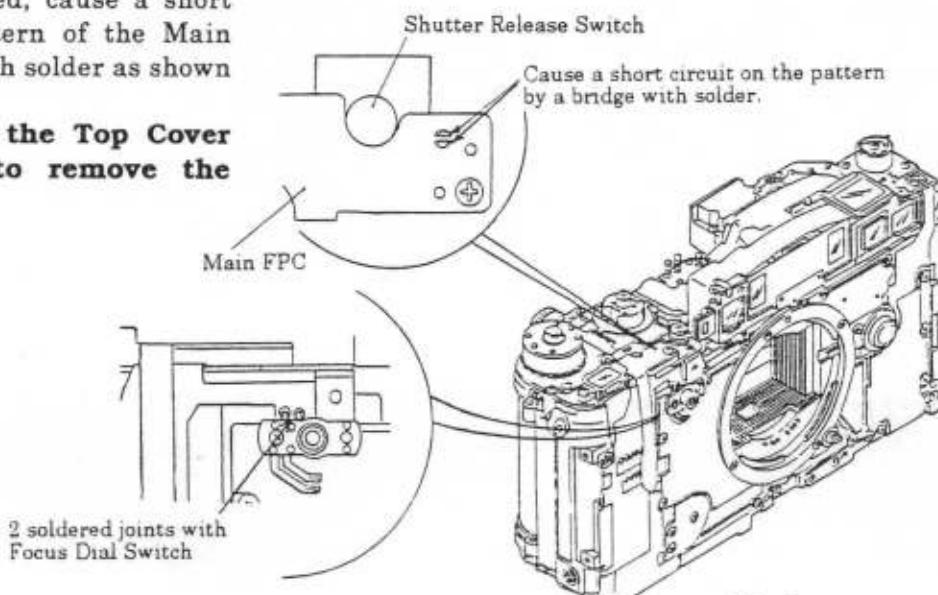

Fig. 2
- 2) Unsolder the 2 soldered joints between the Main FPC and the Focus Dial Switch. (See Fig. 2)
- a) To operate the camera with the Top Cover Ass'y removed, cause a short circuit on the pattern of the Main FPC by a bridge with solder as shown in Fig. 2.